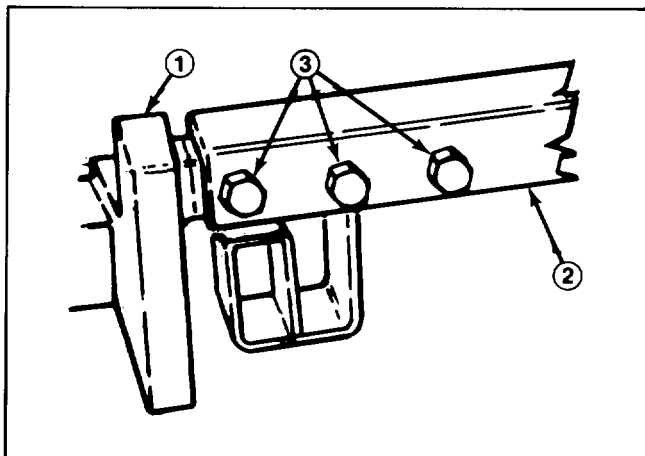

Figure 2
2. Slide carrier frame onto lift arms aligning mounting holes. Secure each side of carrier frame to lift arms with (3) 1/2 - 13 x 1-1/2" lg. capscrews. Torque capscrews to 70-80 ft-lb (Fig. 2).